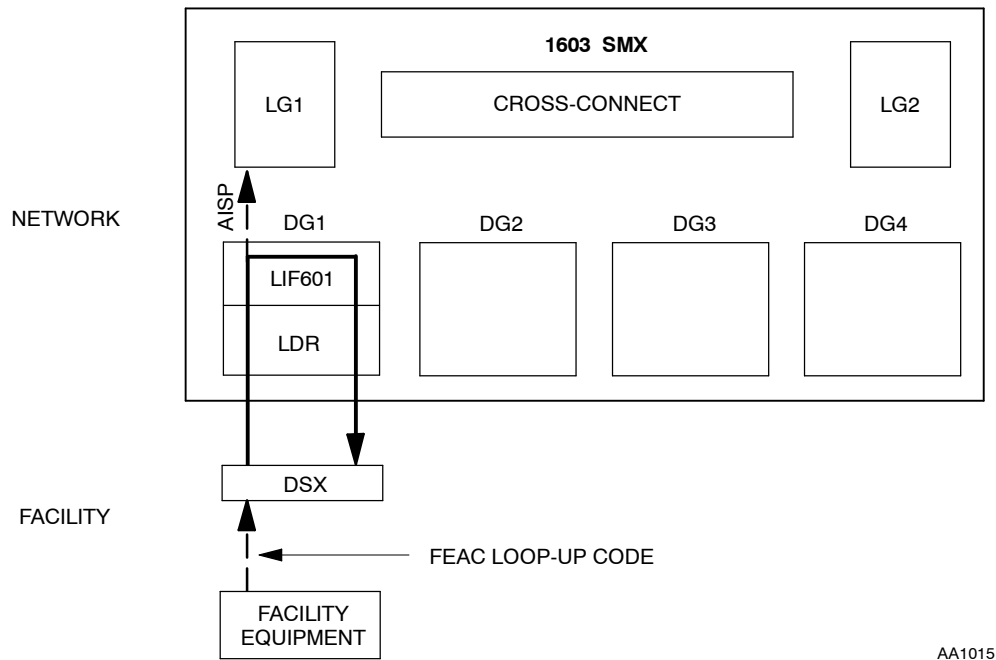

Figure 4. Receiving FEAC Loop-up Code from Facility Equipment
- 12 See Figure 4. Allow external loopback request on DS3 port (requires LIF601):